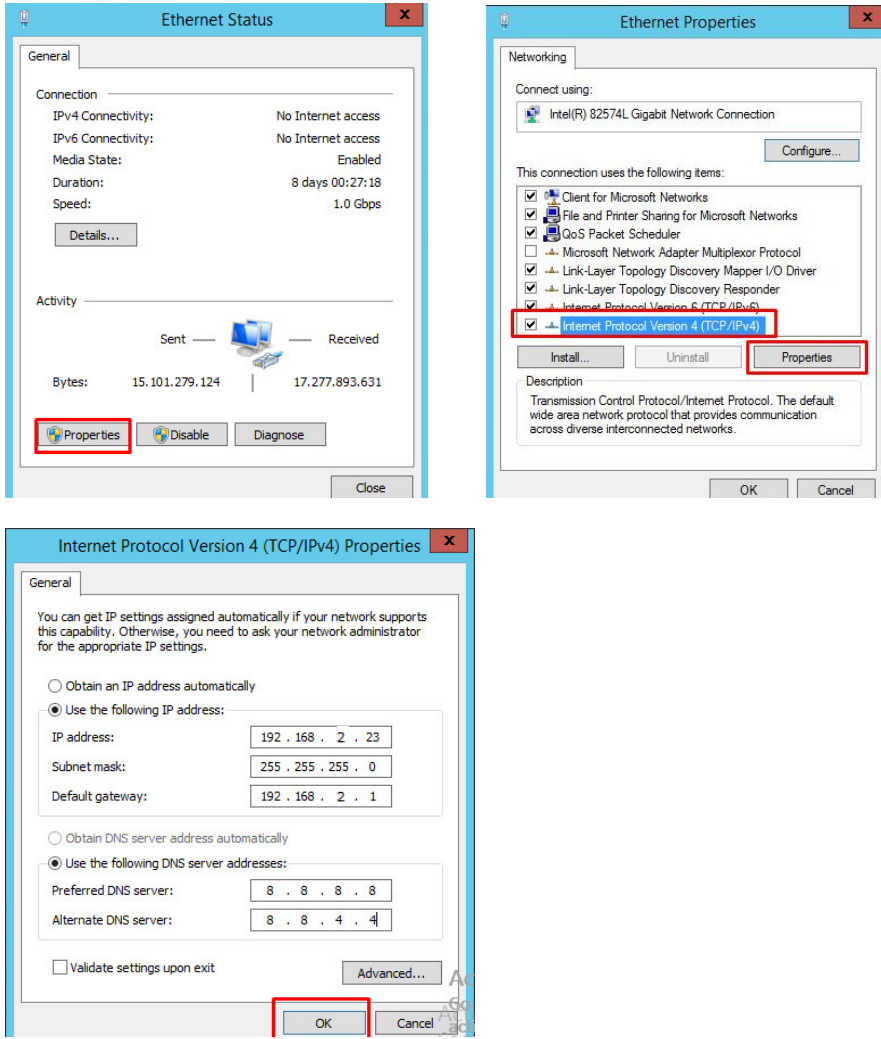

Figure 25. PC Ethernet Setup
- j) From the PC's 'Network Connections', go to the 'Ethernet Properties.' Following the operations in the Figure 25, an IP Address is defined to the PC.